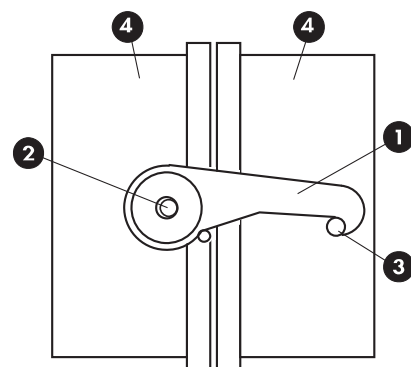

FIGURE 6.1
The system for joining is carried out by the coupling of an eccentric hook (1), which is turned through a square key joined to a metallic axle (3). The axle, as well as the hook (made from stainless steel), are contained in a plastic box (4), placed inside the Panel. (Fig. 6.1)